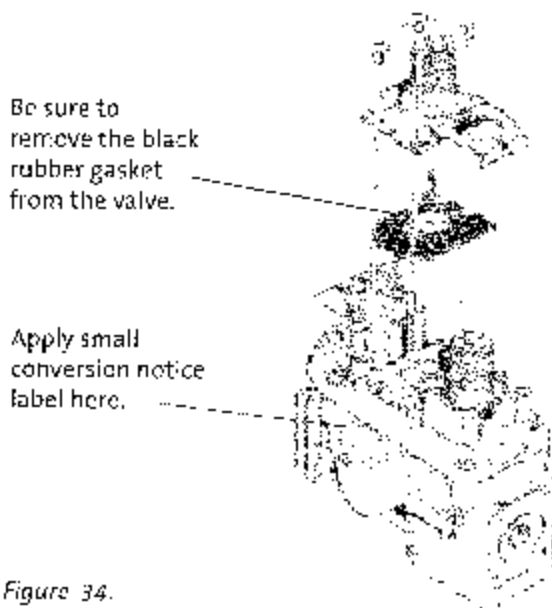

Figure 34. Valve Regulator replacement.
7. **Change the Regulator:** See fig. 34.
Connect the two thermostat wire leads to the two lower terminals on the terminal block located to the right of the ON/OFF/T-STAT switch. Do not overtighten the connections. **IT IS NOT NECESSARY TO DISCONNECT ANY OTHER WIRES.** See Figure 34.